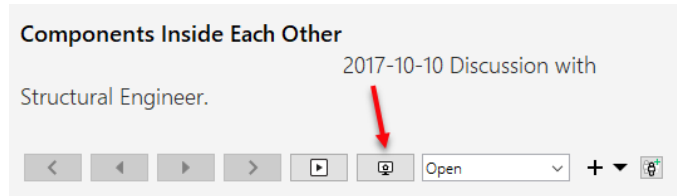

Figure 68: Presentation view detail
- 4) To show the presentation in "Full Screen Mode" you click Toggle Presentation **mode**  in the presentation menu below the 3D Window (see Figure 68).